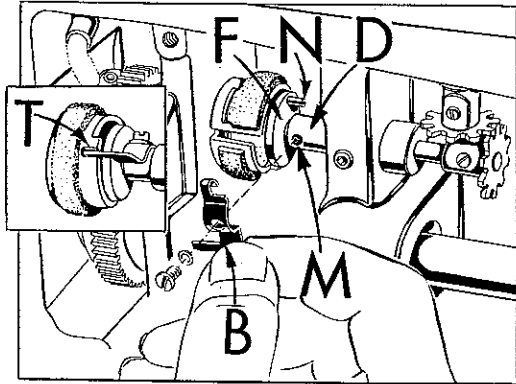

Fig. 25
10. Turn hook oil control shaft (D, Fig. 25) until screw hole (M) is accessible. Manually rotate pump disc (F) so its stop pin (N) is 90° above screw hole.
11. Rotate metering cup so the short slot (T) is 180° from the stop pin (N). Now, install the hook oil control finger (B) by first hanging the hooked portion of the finger over the stop pin (N) and lowering to insert the projection at bottom left into the short slot of the metering cup. Tighten finger (B) in place by means of screw and washer, making sure the hook oil control finger does not bind or distort the metering cup.